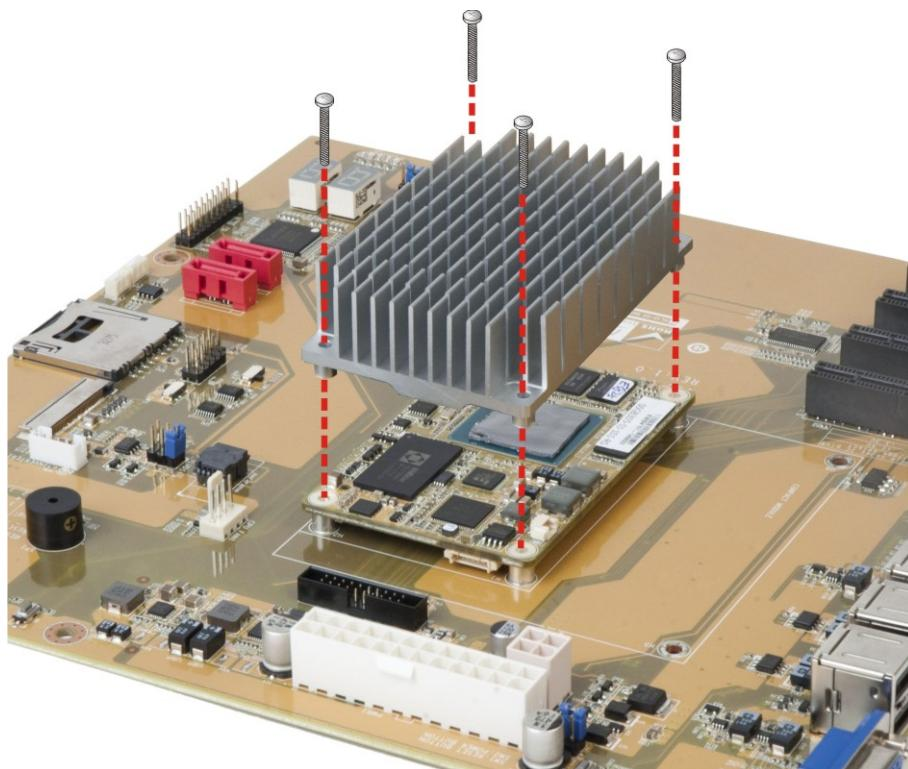

Figure 4-2: Secure the Heatsink
Step 3: Place the heatsink on the ICE-BT-T10, aligning the retention screw holes (Figure 4-2).
Step 4: Secure the heatsink to the ICE-BT-T10 and the baseboard with the supplied retention screws (Figure 4-2).